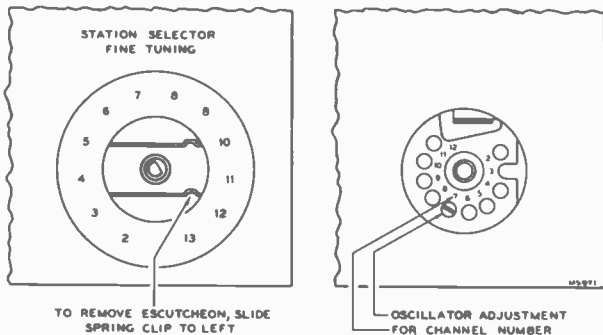

Figure 4--R-F Oscillator Adjustments
**CHECK OF R-F OSCILLATOR ADJUSTMENTS.**—Tune in all available stations to see if the receiver r-f oscillator is adjusted to the proper frequency on all channels. If adjustments are required, these should be made by the method outlined in the alignment procedure. The adjustments for channels 2 through 12 are available from the front of the cabinet by removing the station selector escutcheon as shown in Figure 4. Adjustment of channel 13 is on top of the chassis.